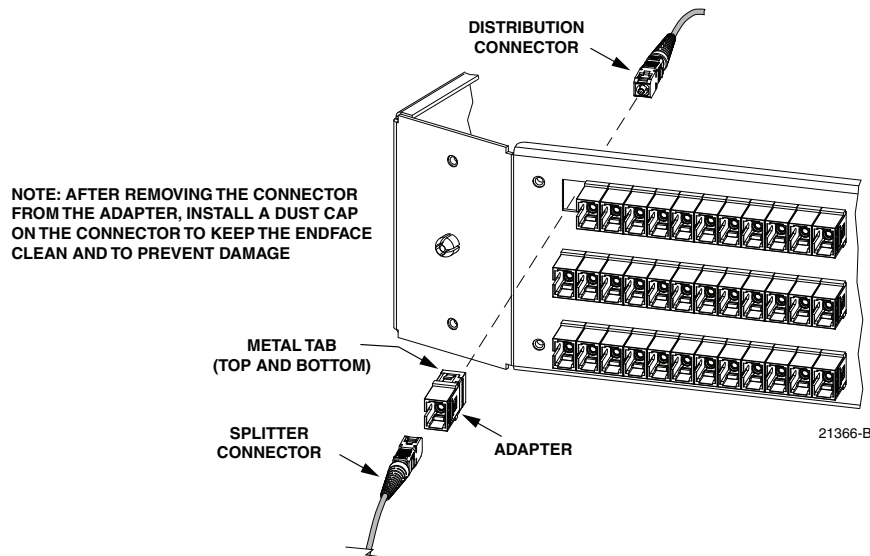

Figure 79. Adapter Removal and Replacement - Typical Distribution Panel
1. Disconnect the splitter connector from the front side of the broken adapter as shown in Figure 79 and install a dust cap on the connector.